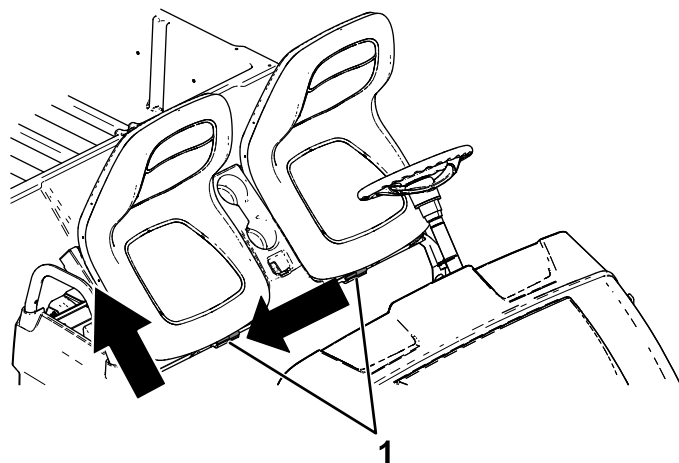

Figure 33
2. Slide the seat assembly to the side out of the pins, and lift the seat assembly upward (Figure 33).